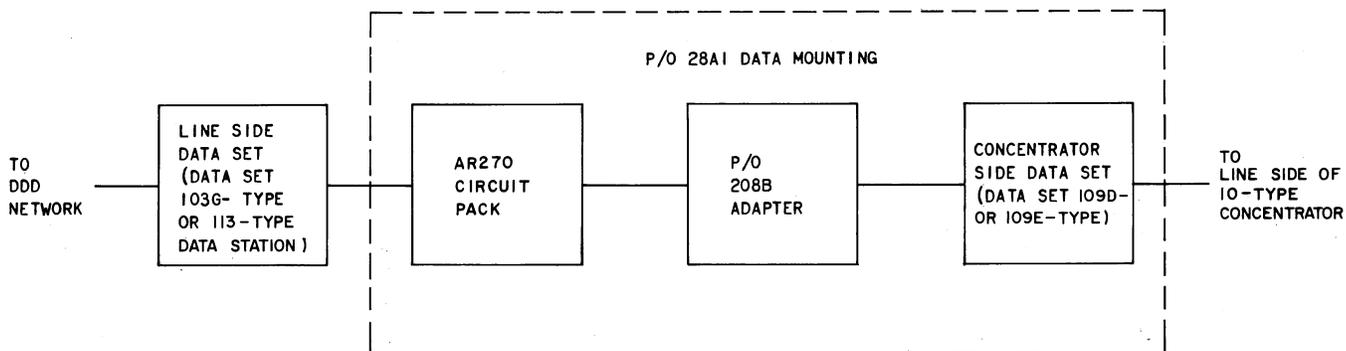

Fig. 1—DATA-PHONE Interconnection Arrangement
1.02 These arrangements provide DATA-PHONE stations [full-duplex (FDX) or half-duplex (HDX)] with access to a DATREX concentrator via the Direct Distance Dialing (DDD) network. One such arrangement (Fig. 1) consists of a Data Set 103G-type, an AR270 circuit pack, a Data Set 109D- or 109E-type, a 208B adapter, and a 28A1 Data Mounting. If the installation consists of more than six interconnection arrangements, the 113-type Data Station equipped with Data Sets 113B-L1 may be used in place of the Data Sets 103G-type.